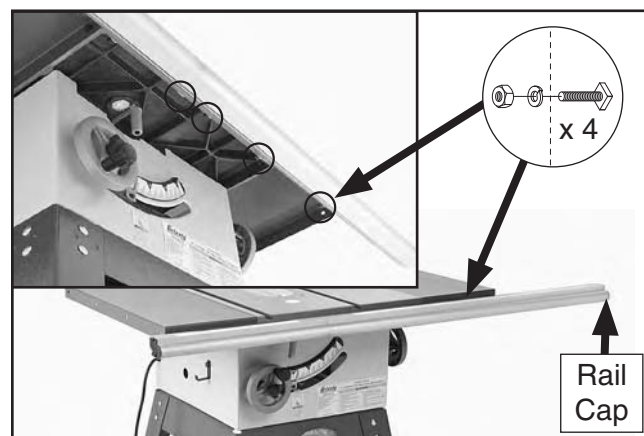

Figure 24. Right front rail installed.
25. Secure the right front rail with the (4) 8mm lock washers and (4) M8-1.25 hex nuts, as shown in **Figure 24**. Do not fully tighten the fasteners yet. Also install the right rail cap with two M4 x 10 tap screws.